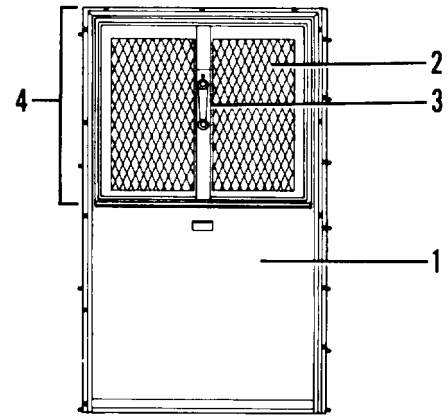

Figure 2-15. Retractable window
- . Three retractable windows (right side) (figure 2-15)
b. Blackout covers (1, figure 2-15) that slide up inside of the semitrailer.
c. Brush guards (2).
d. A lever (3) is used to open and close retractable window sash (4).